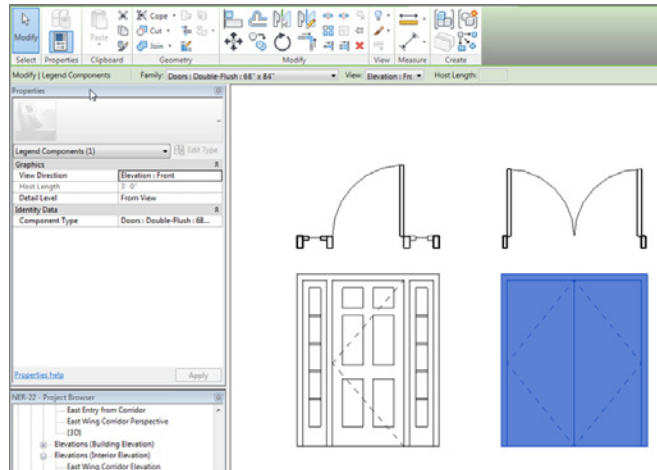

FIGURE 11.44: The two doors (two views each) in the legend
10. Place the corresponding plan view just above the door. Make sure Host Length is set to 6'-0" (1800mm) (see Figure 11.44).